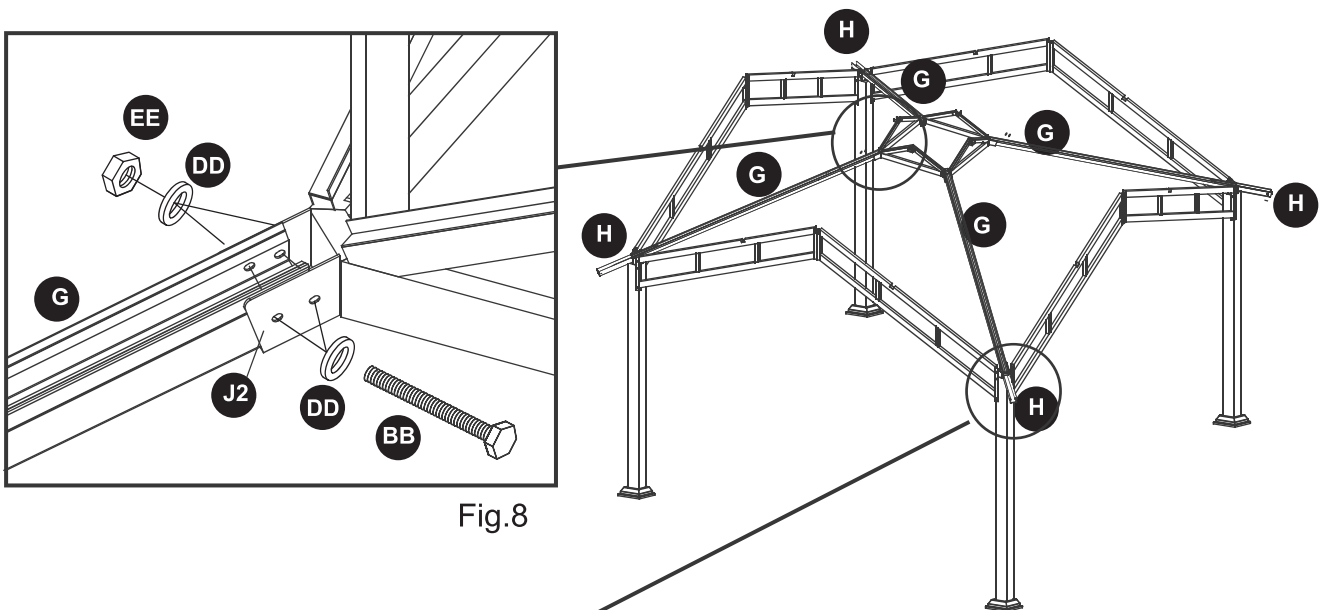

Fig.8
7.1 Connect one end of the Long Raingutter (G) to the Connector (J2) with the Bolts, Washers and Nuts (BB/DD/EE). See Fig.8.